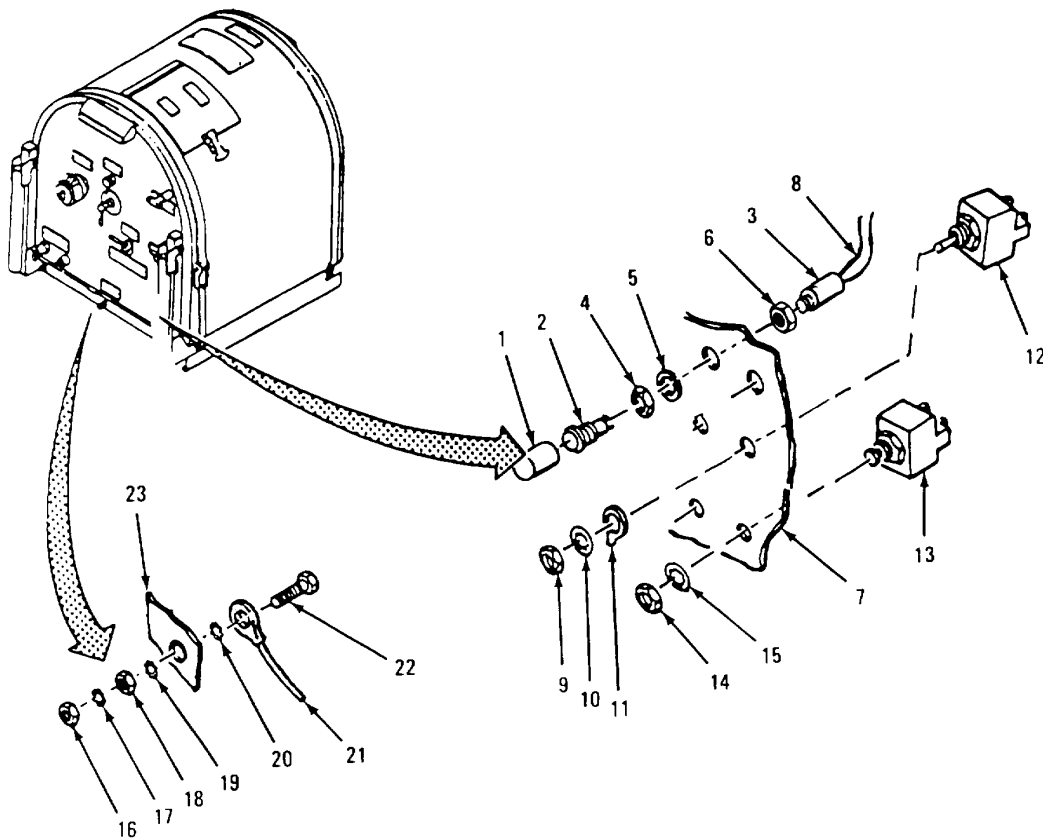

Figure 4-10. Lights, Toggle Switches, and Circuit Breaker Replacement
- (a) Position terminal block (6) on frame (7) and secure with four nuts (10), four star washers (9), and four screws (8).
- (b) Secure tagged wires to proper terminals on terminal block (6) as noted during removal.
(1) Inspection. (Refer to Figure 4-10)
- (a) Solder leads (8) on indicator lamp (3) as noted during removal.
- (b) Position indicator lamp (3) in panel (7) and secure with washer (5) and outer nut (4).
- (c) Insert bulb (2) into indicator lamp (3).
- (d) Replace lens cover (1) by screwing it onto indicator lamp (3).
- (a) Secure wire leads to proper toggle switch (12) terminals as noted during removal.
- (b) Position toggle switch (12) in front panel (7) and install locking ring (11) with slot in toggle switch (12) and hole in front panel (7), star washer (10), and outer nut (9).
(2) Removal.
(3) Installation.
g. Grounding Stud. (Refer to Figure 4-10)(1) Removal.